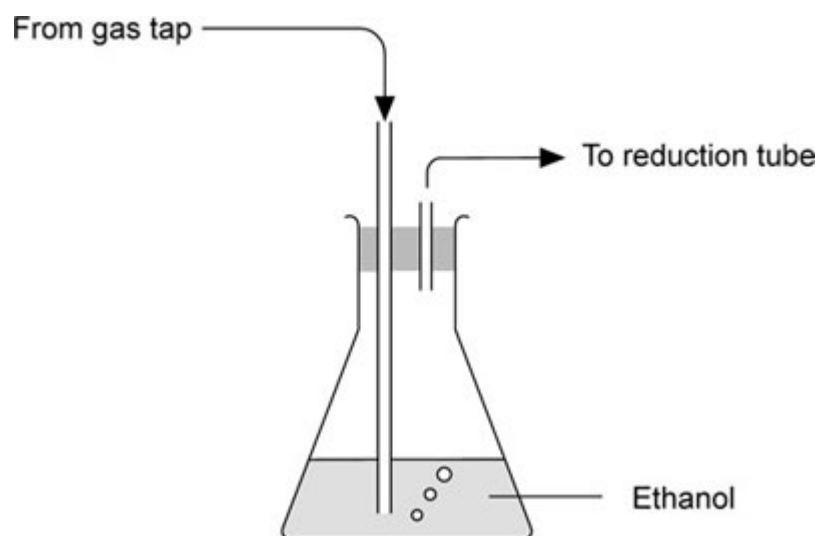

Fig. 2 Bubbling through ethanol apparatus
- One 250 cm³ conical flask fitted with a two-holed bung with one long and one short glass tube (Fig. 2).
As for (b) above, but arrange for the natural gas to bubble through ethanol in a conical flask before it reaches the reduction tube (*Fig. 2*). Standing the flask in warm water (about 65 °C) to increase the rate of evaporation of the ethanol speeds up the reduction. The reduction takes between five and ten minutes and a faint glow is seen as the oxide is reduced.